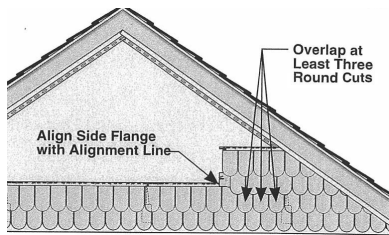

Fig.28
- b. Measure from the Left Side Flange making sure to stagger the laps by at least 3 half-rounds (Figure 28).
c. Align Left Side Flange with nearest Alignment Line of course below (Figure 28).